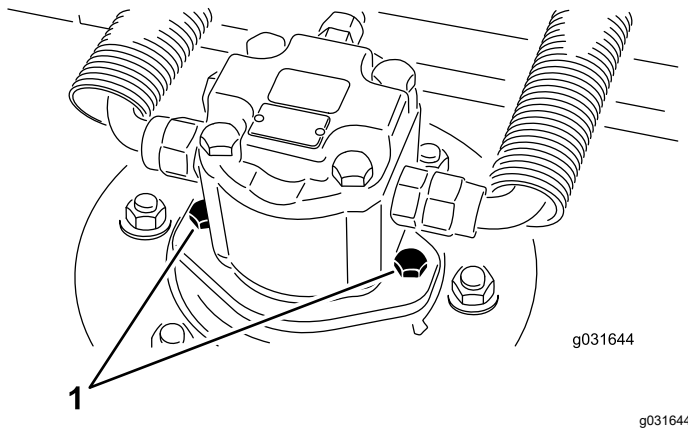

Figure 68
2. Remove the hydraulic-motor-mounting screws and disconnect and remove the hydraulic motor from the cutting unit (Figure 68).
4. Using the hydraulic-motor-mounting screws, install the hydraulic motor to the cutting unit (Figure 68).